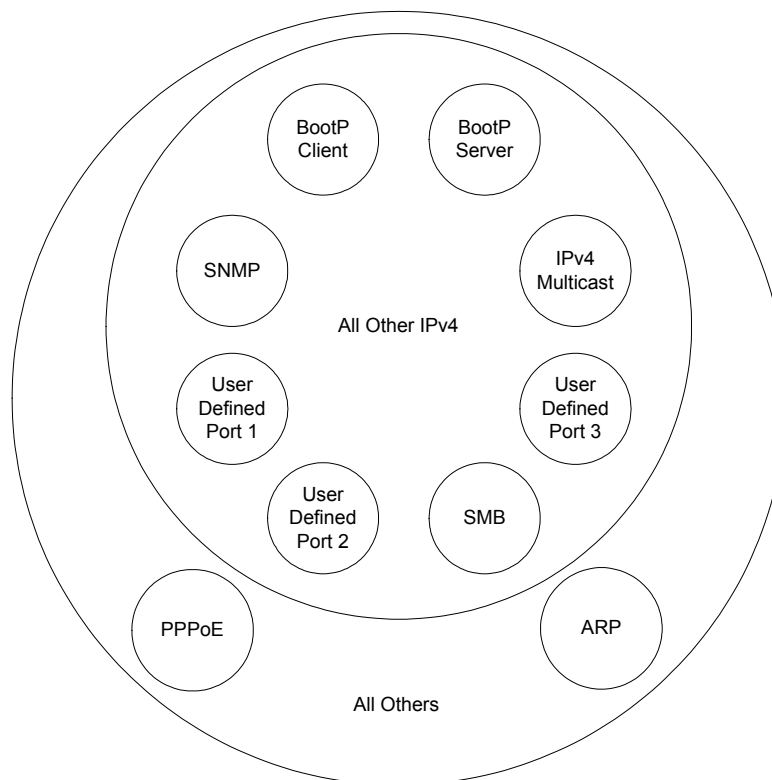

Figure 147: Categorical protocol filtering
- All other IPv4 traffic (see Figure 147)
- All others (see Figure 147)